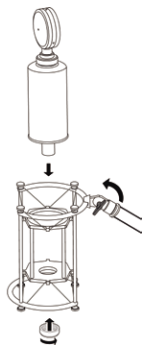

Fig. 2
2. Insert the microphone from above in the inner shock absorber ring and fasten it to the ring with a nut on bottom. To turn the microphone, use the butterfly thumb screw (Fig. 2).